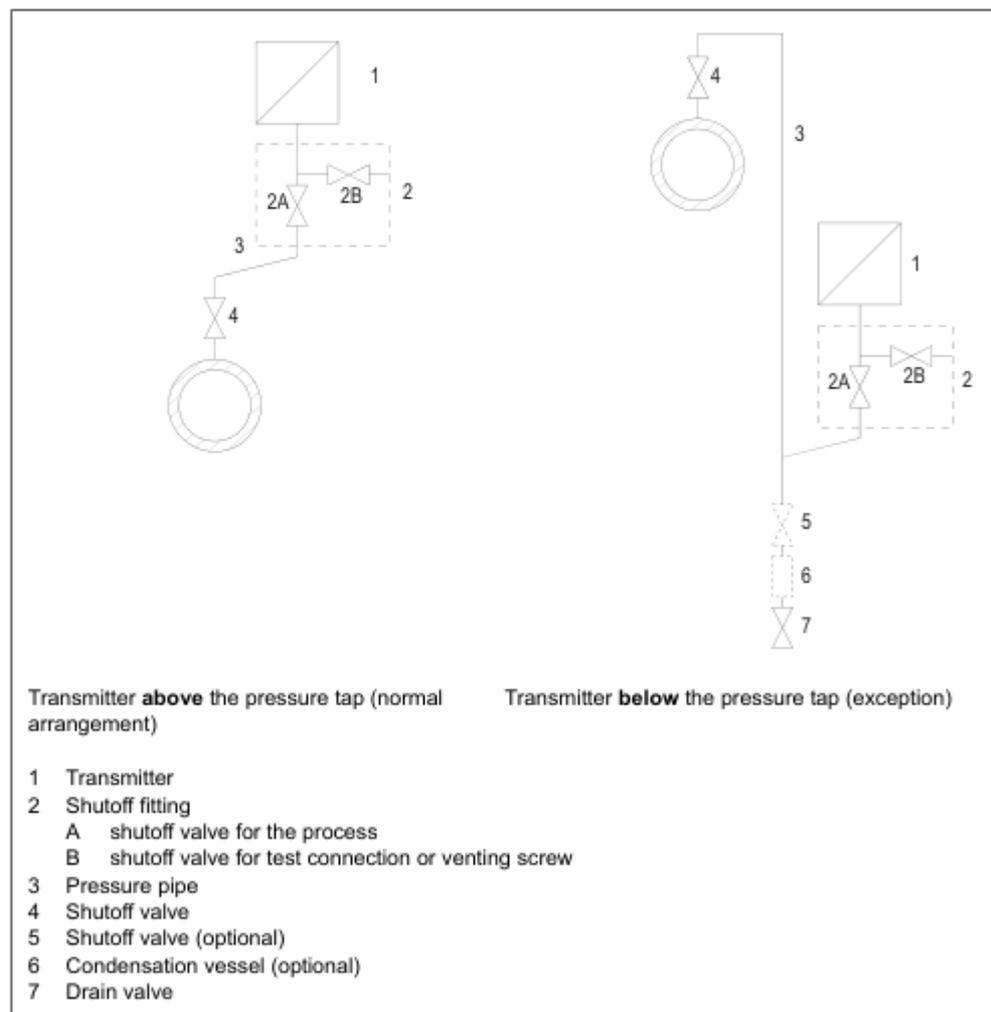

Figure 39 Measuring gases
Incorrect or improper operation of the shutoff fittings (Figure 39, pg. 97) may result in serious injury or considerable material damage.
1. Open the shutoff valve (2B, Figure 39, pg. 97).
2. Apply pressure corresponding to the start of scale through the test connection of the shutoff fitting (2) to the transmitter.
5. Open the shutoff valve (4) on the pressure tap.